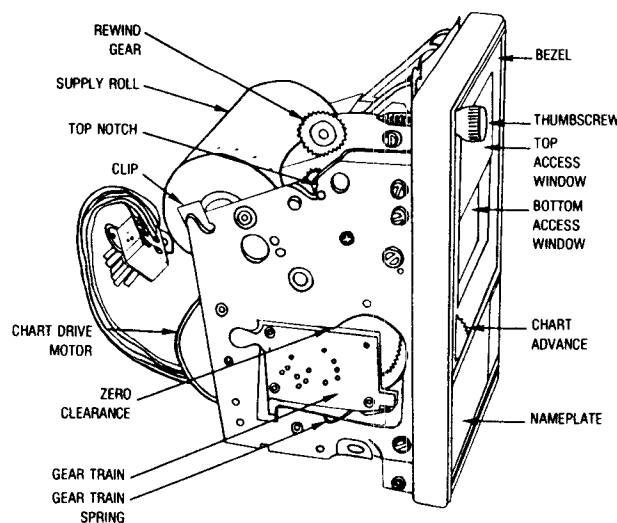

Figure 3-2. View of RD288 Recorder With Case Removed
3.3 SCALE REPLACEMENT (Refer to Figure 3-2)